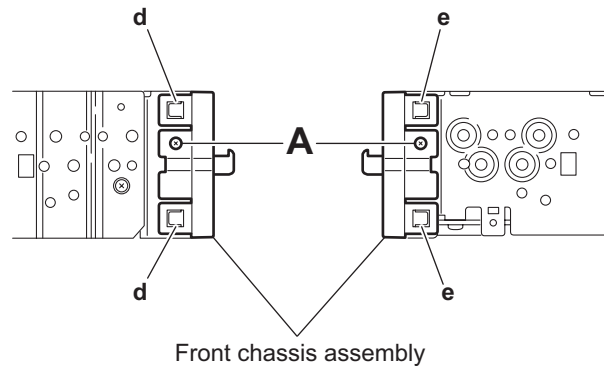

Fig.3
3.1.3 Removing the front chassis assembly (See Fig.3)
- (1) Remove the two screws **A** on the both side of the body.
- (2) Lift the front side of the top cover and move the top cover backward to release the two joints **a**.
3.2.2 Removing the connector board (See Figs.3 to 5)